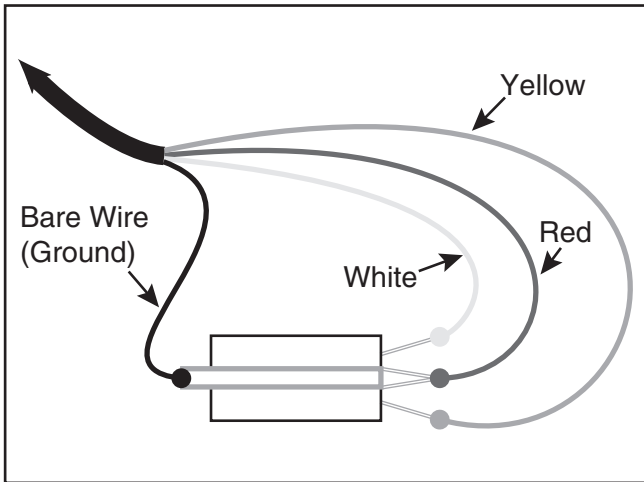

Figure 14. 3-way switch wiring.
9. Re-solder the three way switch onto its wire as shown in **Figure 14**.